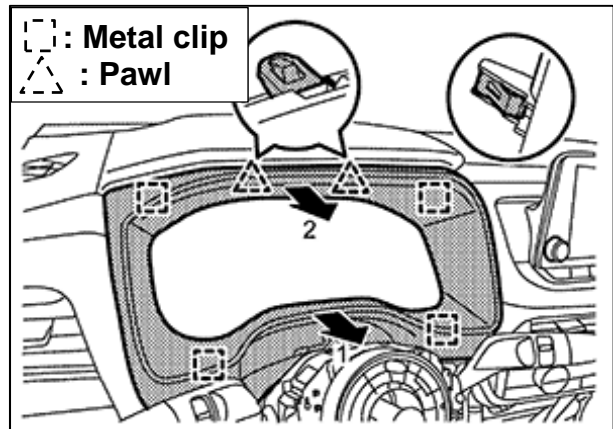

Figure 81
56. Disengage the two (2) cluster lid A fixing pawls and the four (4) metal clips, as indicated by the arrows in Figure 81, and then remove the cluster lid A.